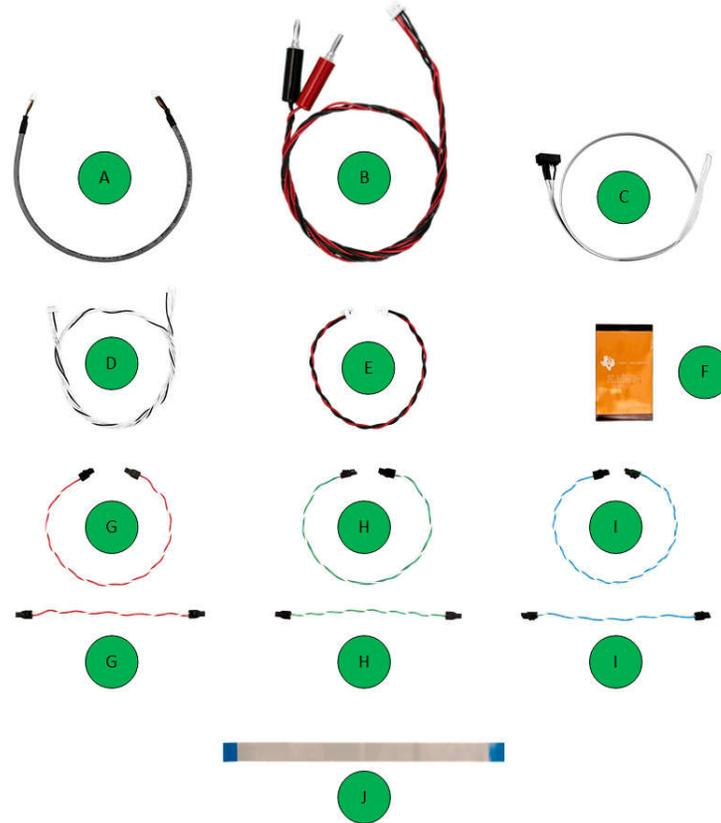

Figure 2-5. DLP4620SQ1EVM Cables
A. Cable references can be seen in Figure 2-5 and are listed in Table 2-6.
The DLP4620SQ1EVM kit contains the cables and Cheetah USB to SPI adapter listed in Table 2-6 and shown in Figure 2-5.
The DLP4621Q1EVM kit contains the cables and Cheetah USB to SPI adapter listed in Table 2-10 and shown in Figure 2-5.